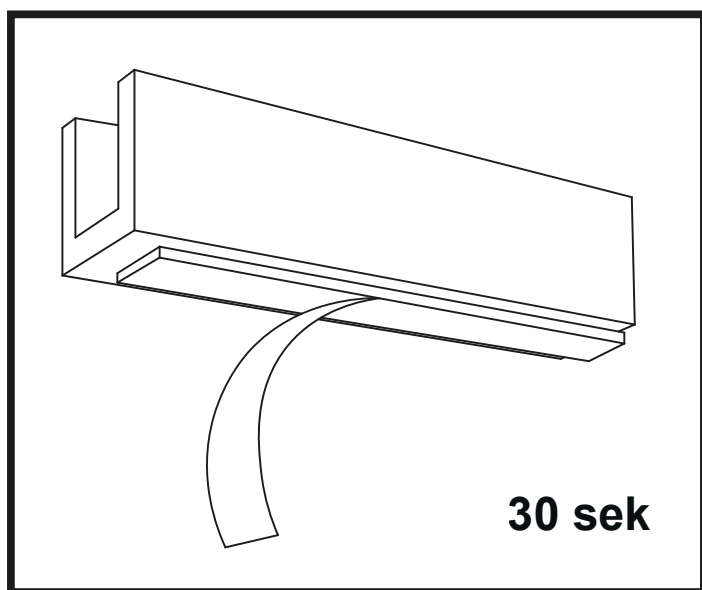

Figure 5
13. Remove the backing film from the double-sided tape on the profile and place the profile on the floor in the marked location. Press the lath firmly, holding the pressure for about 30 seconds. (Figure 5)